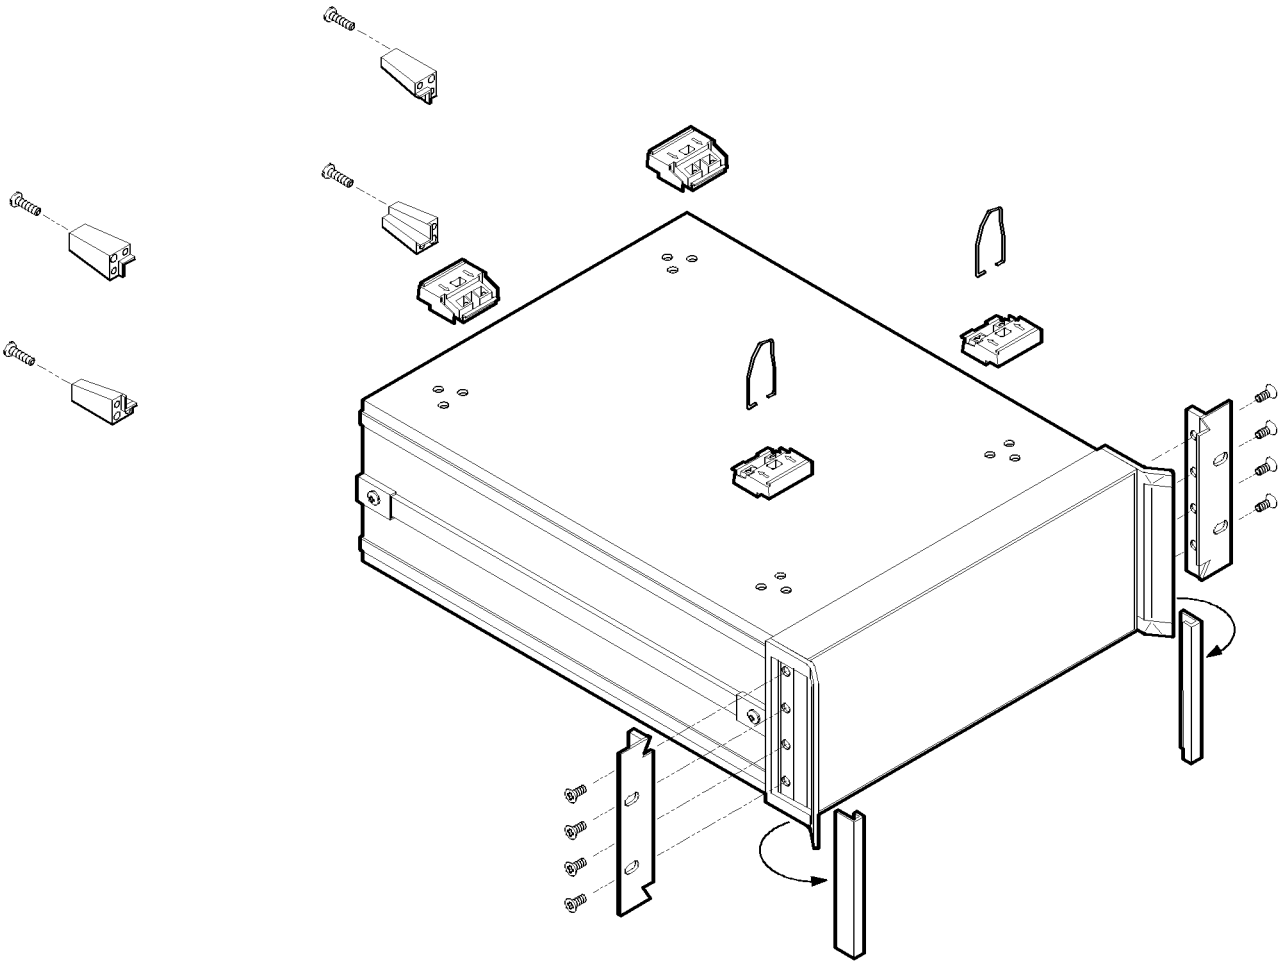

Figure 3-6. Rack Mount Flanges for Swept Signal Generators with Handles Attached
- 1. Refer to Figure 3-6. Remove handle trim strips.